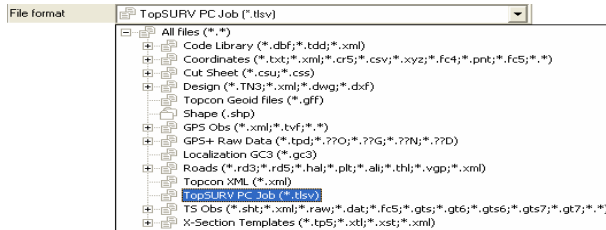

Figure 3-29. File Format List
- the File Format (Figure 3-29).